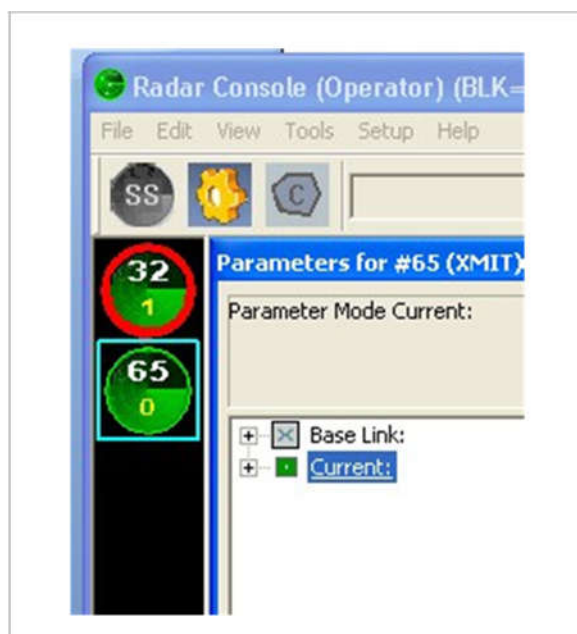

Figure 63 - Exporting Radar Parameters (Step 3)
- Step 3 Select Current (Figure 63)